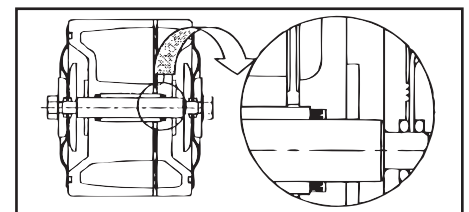

Figure 29-A
- The open side of the V faces toward the diaphragm (air chamber).(See Figure 29-A)
Measure the inside diameter, and if it is outside the usable range, replace the throat bearing (See Figure 29-B).